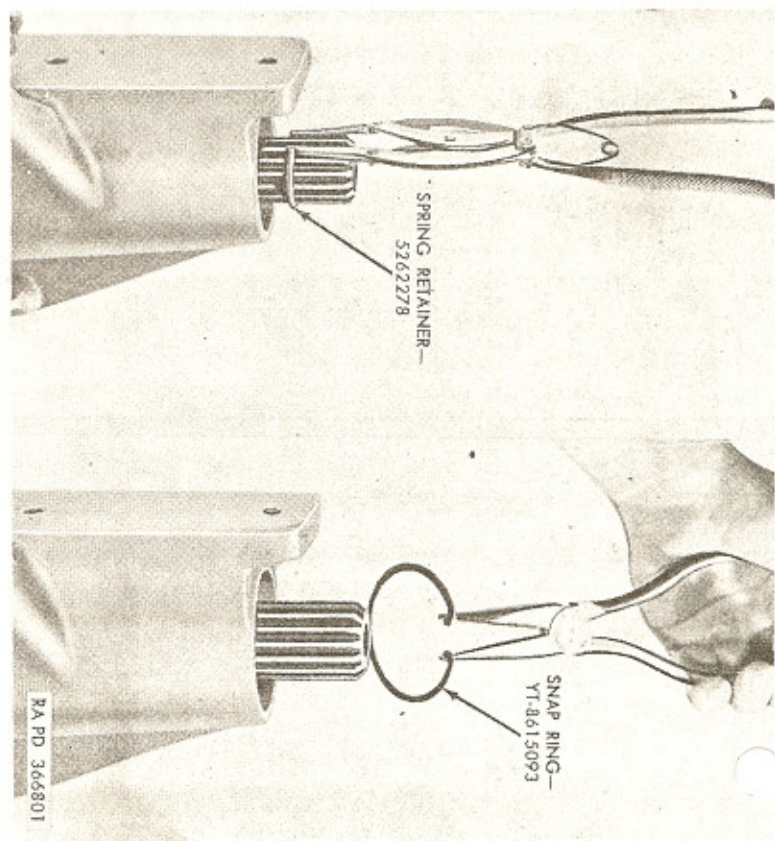
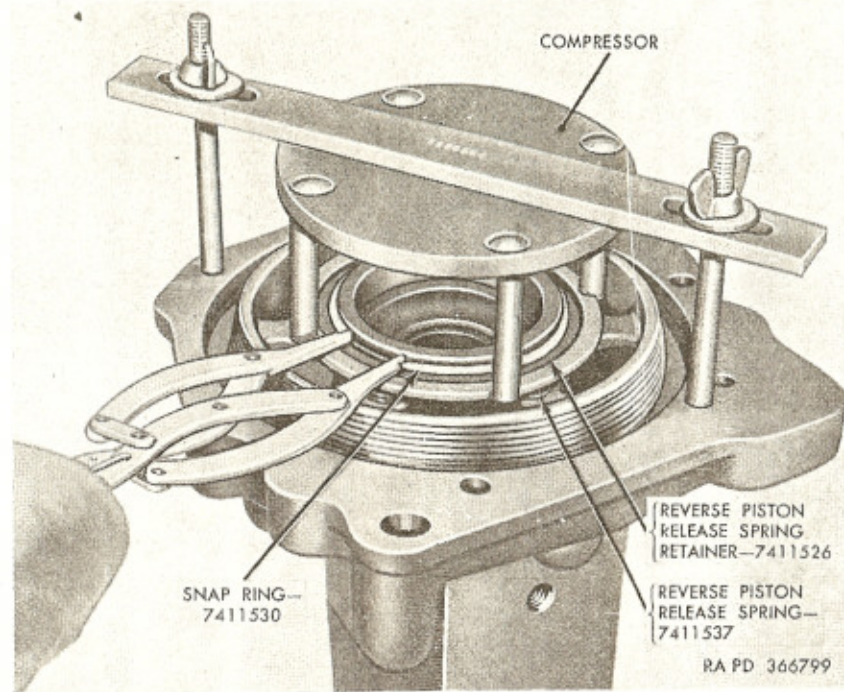
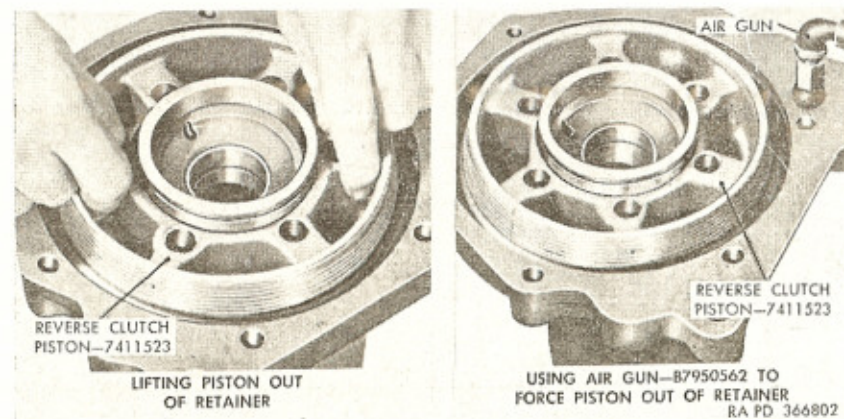

Figure 130. Removing or installing output shaft bearing rings.
Figure 132. Using compressor—C7950251 to compress reverse piston release springs.
Figure 133. Removing reverse clutch piston from bearing retainer.
a. Remove input shaft (A) and bronze thrust washer (B) from output shaft (C). Remove reverse clutch stationary cone key (Q) from notches in reverse clutch stationary cone (R).
b. Using a chisel and hammer, remove output shaft oil seal (GG) from bore in rear end of output shaft bearing retainer assembly (AA). Discard oil seal.
c. Remove outer spring retainer (DD) from groove in output shaft assembly (C), using snap ring pliers as shown in figure 130.
d. Remove snap ring (FF) from groove in output shaft bearing retainer assembly (AA), using long nosed pliers (fig. 130).
f. Remove inner spring retainer (DD) from groove in output shaft assembly (C), using snap ring pliers (fig. 130).
g. Lift output shaft bearing retainer assembly (AA) off output shaft and reverse unit assembly.
h. Lift reverse internal gear assembly and reverse clutch stationary cone (P and R) off output shaft assembly (C).
i. Mount spring compressor—C7950251 (fig. 132) on output shaft bearing retainer. Turn down wing nuts on spring compressor to force reverse piston release spring retainer away from spring retainer snap ring. Using snap ring pliers (fig. 132), remove snap ring (T) from groove in bearing retainer. Remove spring compressor from bearing retainer.
j. Remove reverse piston release spring retainer (U) and six reverse piston release springs (V) from reverse clutch piston (W).
k. Lift reverse clutch piston (W) straight out of output shaft bearing retainer (AA) (fig. 133). Piston is located on four guide pins and cannot be rotated. If piston does not readily lift out of bearing retainer, apply air pressure behind piston using air gun—B7950562 (fig. 133) at hole in bearing retainer. Apply only sufficient air pressure to force piston out of bearing retainer.
(3) Turn piston until dowel pin holes in piston align with dowel pins in retainer; then push piston down into retainer. Remove installing tool.
j. Install six reverse piston release springs (V) in holes in reverse clutch piston; then place reverse clutch piston release spring retainer (U) and retainer snap ring (T) on top of springs.
k. Install spring compressor—C7950251 (fig. 132) on output shaft bearing retainer, with legs on compressor resting on release spring retainer. Turn wing nuts on compressor down to compress springs, forcing spring retainer down beyond the snap ring groove in hub of retainer. Install snap ring (T) in groove in bearing retainer; then remove spring compressor.